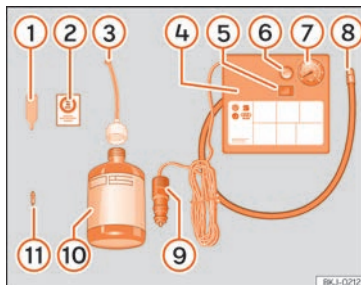

Fig. 32 Standard representation: anti-puncture kit contents.
» **Fig. 32:**
- Unscrew the tyre valve cap and insert. Use the » **Fig. 32** 1 tool to remove the insert. Place it on a clean surface.
- Shake the tyre sealant bottle vigorously » **Fig. 32** 10.
- Screw the inflator tube » **Fig. 32** 8 into the sealant bottle. The bottle's seal will break automatically.
- Remove the lid from the filling tube » **Fig. 32** 3 and screw the open end of the tube into the tyre valve.
- Place the insert back into the tyre valve using the tool »» Fig. 32 ①.
- Screw the compressor tyre inflator tube »» Fig. 32 ⑧ into the tyre valve.
- Check that the air bleed screw is closed »» Fig. 32 ⑥.
- Insert the connector »» Fig. 32 ⑨ into the vehicle's 12-volt socket »» page 137.
- Turn the air compressor on with the ON/OFF switch »» Fig. 32 ⑤.
- Attach the sticker »» Fig. 32 ② to the instrument cluster, within the driver's visual field.
Screw the inflator tube »» Fig. 32 ⑤ again and check the pressure on the gauge ⑥.